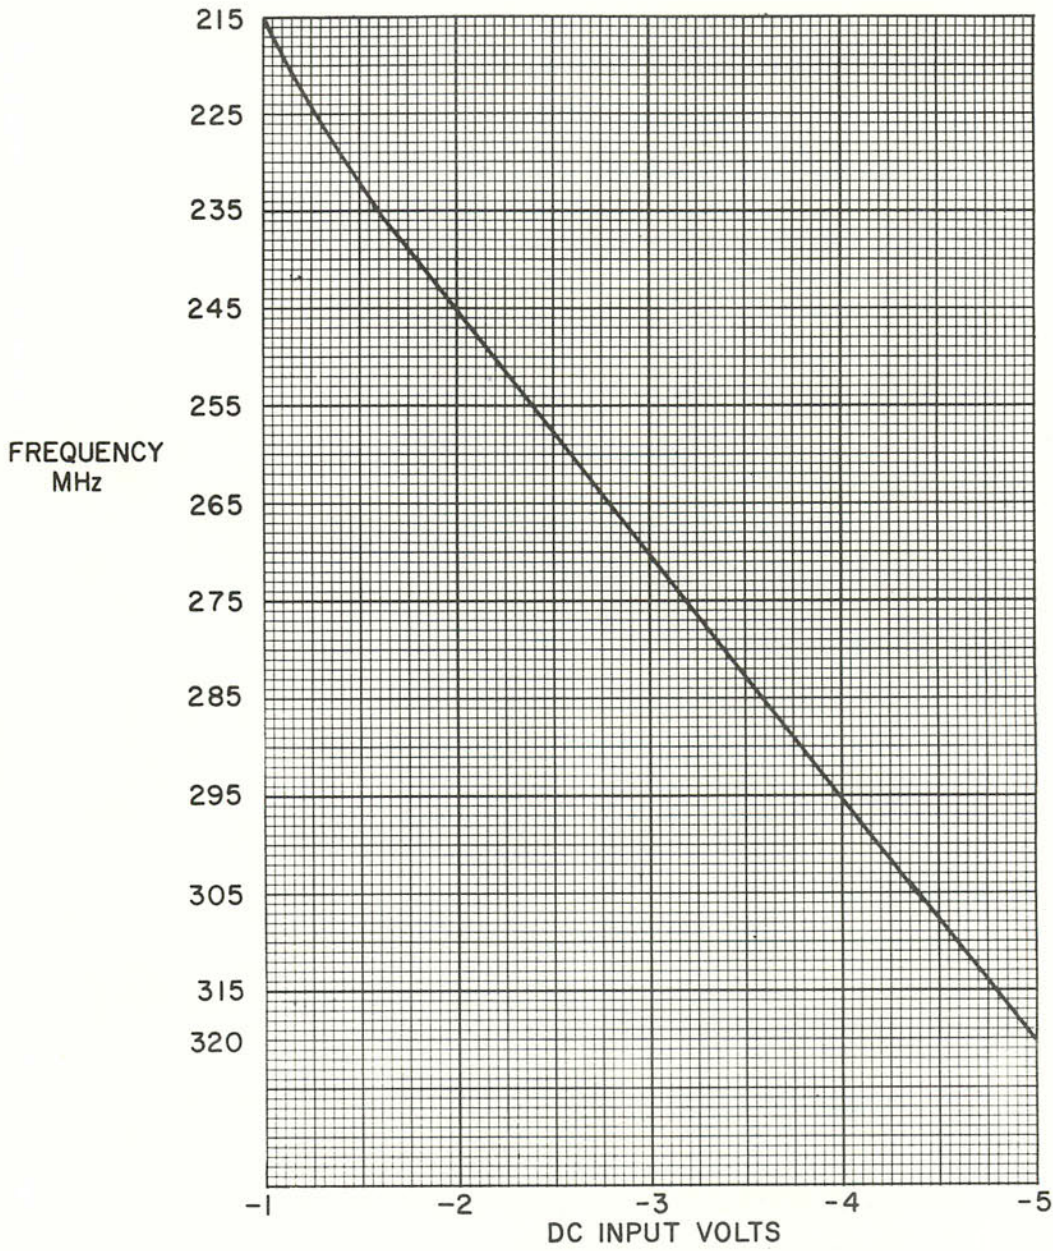

Figure 3-1. Input Voltage vs. Frequency
2. Adjust the power supply for a voltage output as indicated in figure 3-1; this is a coarse adjustment.